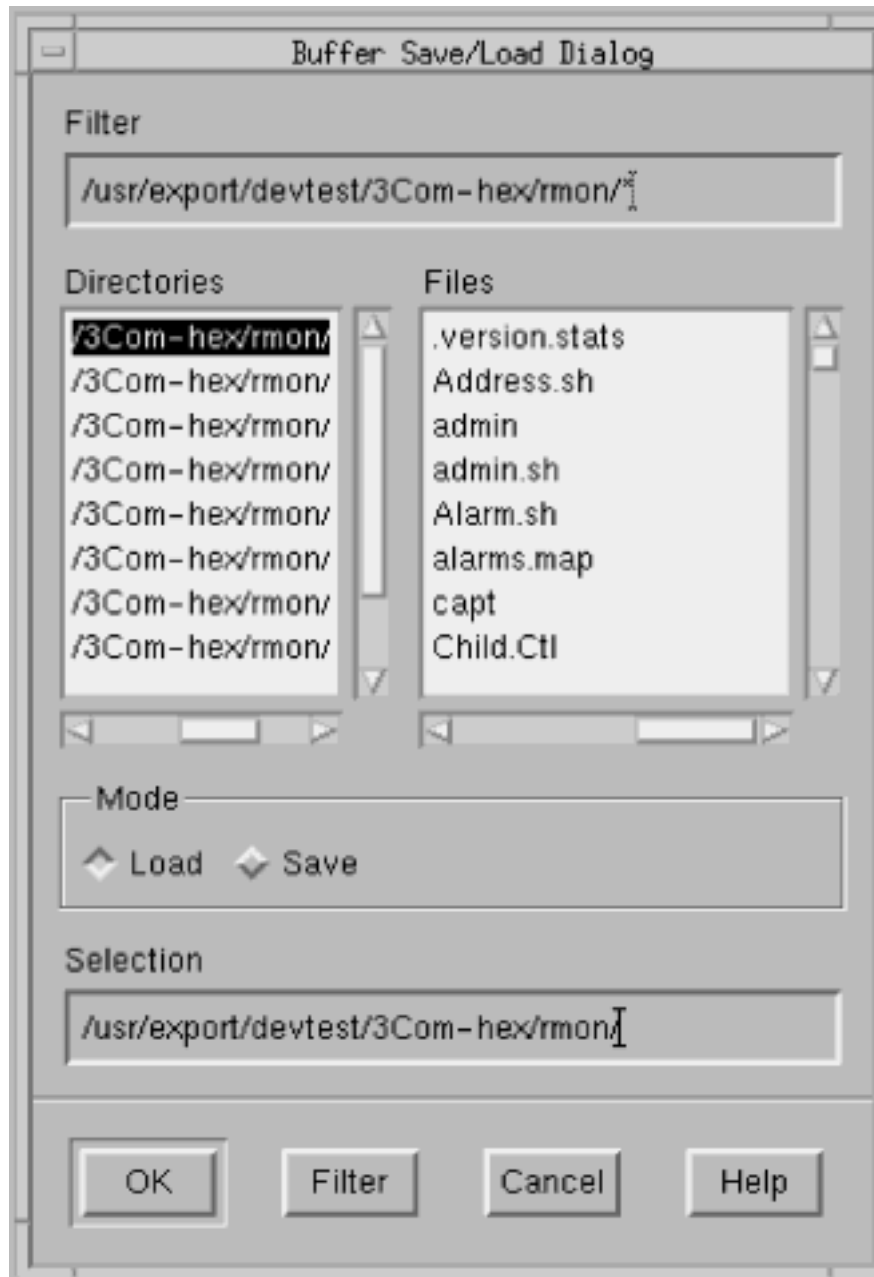

Figure 53. Buffer Save/Load Dialog Box
2. Click **File** in the Buffer Details area to open the Buffer Save/Load dialog box, as shown in Figure 53 on page 108.
1. In the Capture Application main dialog box, click **File** in the Buffer Details area to open the Buffer Save/Load dialog box, as shown in Figure 53 on page 108.